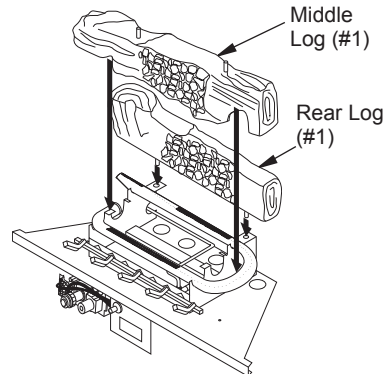

Figure 26 - Installing Rear and Middle Logs
1. Place pins in rear log (#1) into holes on rear of base grate as shown in Figure 26.
2. Place middle log (#2) between front and rear of burner. The left side will rest on the left tab and the right will straddle the burner as shown in Figure 26.